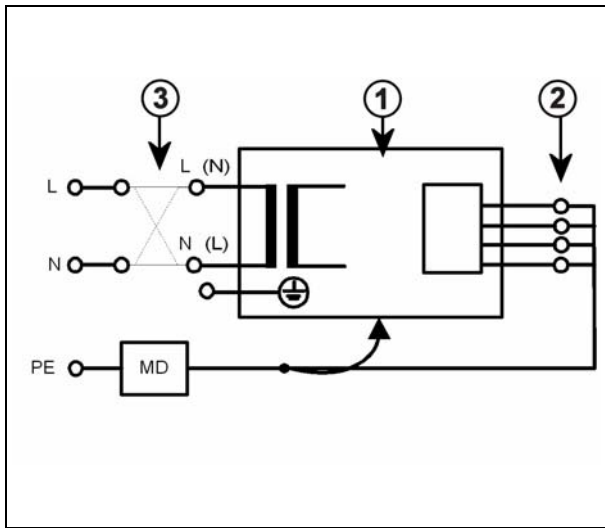

Fig. 3 Measuring circuit for the direct measurement of the device leakage current according to DIN VDE 0751-1:2001-10, Fig. C5 for protective class I.
If the direct measurement of the device leakage current is used (measuring set-up according to Fig. 3), the system must be set up isolated during the measurement and must not be touched during the measurement.
**In the direct measurement of the device leakage current (measuring set-up according to Fig. 3), no housing parts of the system may be touched during the measurement.**